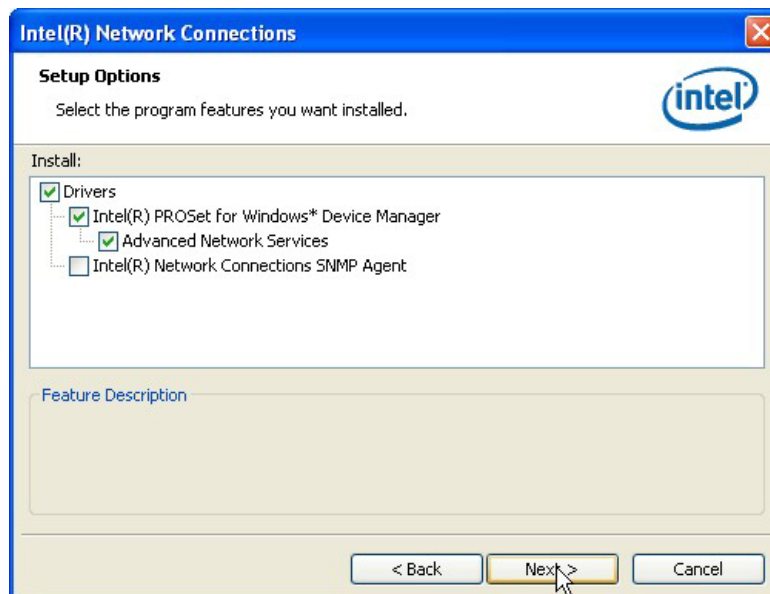

Figure 6-18: LAN Driver Setup Options
Step 11: The **Setup Options** screen in **Figure 6-18** appears.